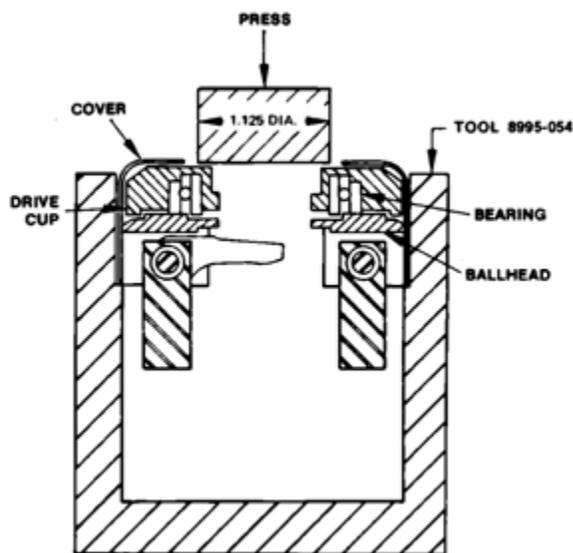

Figure 5-2. Ballhead Disassembly
44. Use an arbor press and Woodward tool 8995-054 to disassemble the ballhead. See Figure 5-2. Press the drive cup and ballhead out of the cover. Disassemble the drive cup, ballhead, bearing and flyweights. Note which side of the bearing is "up" in the drive cup and reassemble it with the same side up.